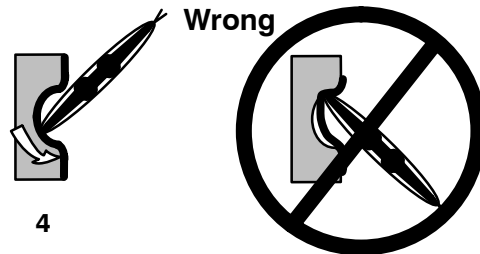

Figure 1. Right and Wrong Technique For Stretching Heated Film into Channels
- To apply film into concave channels, use cotton gloves or use a squeegee with a low friction sleeve or Scotchmate loop material. Press the heated and softened film into the middle of the channel first so that the film is stretched evenly across the channel. See Figure 1.